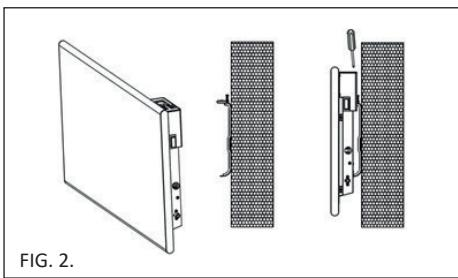
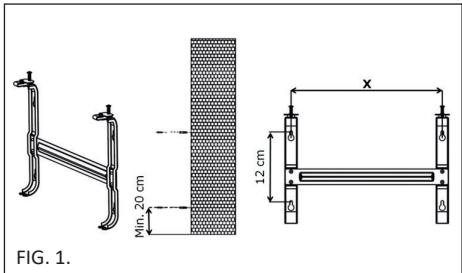

FIG. 2.
FIG. 1.
2. Assemble the 4 pcs of Ø4x30 screws and clips onto the wall, please to attention the position of the top and below clips, as Fig. 1 shows. The state of hanging working, please take reference as **Fig. 2 & Fig. 3**.